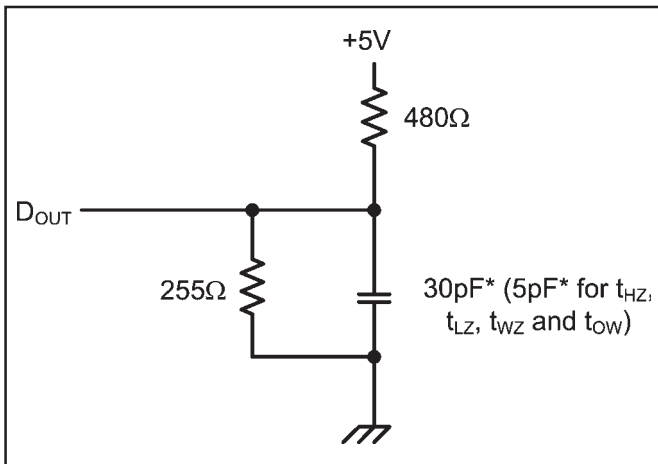

Figure 1. Output Load
- 7. Transition is measured  $\pm 200mV$  from steady state voltage prior to change with specified loading in Figure 1. This parameter is sampled and not 100% tested.
12. Transition is measured  $\pm 200\text{mV}$  from steady state voltage prior to change with specified loading in Figure 1. This parameter is sampled and not 100% tested.
Output Load	See Figures 1 and 2